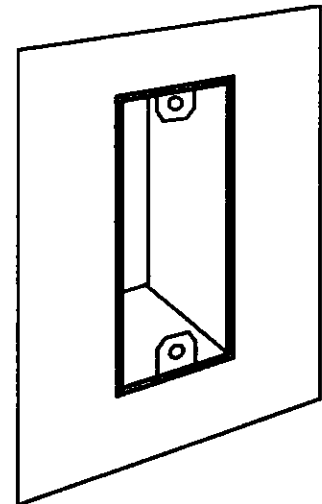

Fig. 9
- 10 Completed electrical box cut-out will be accurately and neatly cut (see Fig 9)